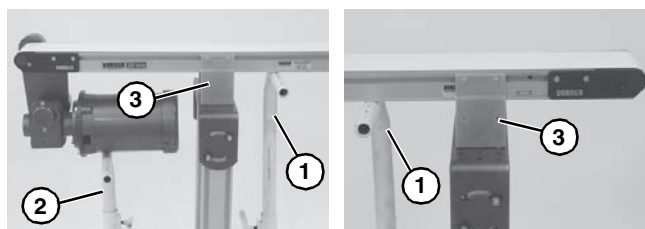
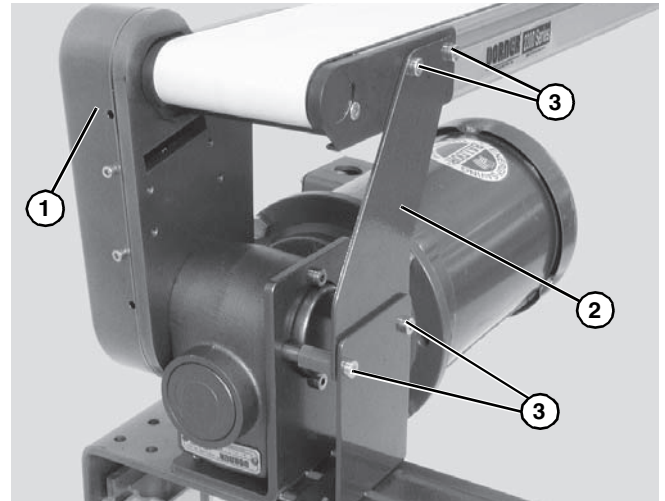

Figure 34
Figure 35
1. Place temporary support stands (**Figure 34, item 1**) at both ends of the conveyor. Place an additional support stand under the drive motor (**Figure 34, item 2**), if equipped. See WARNING.
2. Remove mounting brackets (**Figure 34, item 3**) from one side of conveyor. (Reverse steps 3 & 4 of “2200 Series Mounting Brackets” section beginning on page 8.) If equipped with heavy load drive package, remove brackets from side opposite drive cover (**Figure 35, item 1**).
3. If equipped, remove return rollers, guiding and accessories from side opposite drive cover (**Figure 35, item 1**).
4. If equipped with heavy load drive package, remove drive support bracket (**Figure 35, item 2**): Remove bracket screws (**Figure 35, item 3**) then remove bracket (**Figure 35, item 2**).
1. Ensure temporary support stands (**Figure 34, item 1**) are placed at both ends of the conveyor. Place an additional support stand under the drive motor (**Figure 34, item 2**), if equipped. See WARNING.
5. If equipped with a heavy load drive package, re-install drive support bracket (**Figure 35, item 2**).